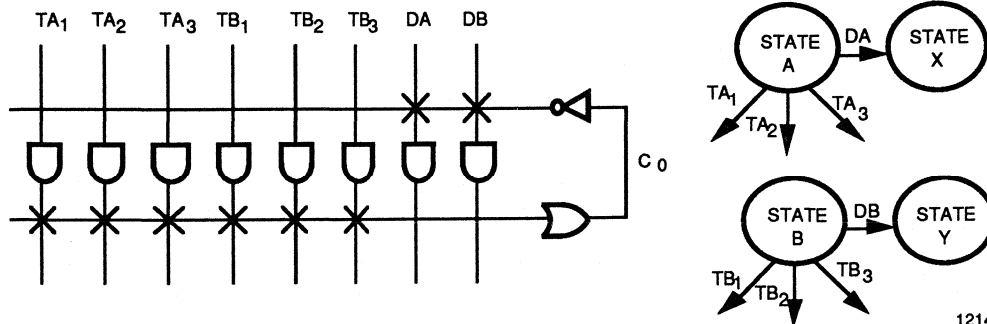

Figure 9. Complement Array - Implementing Default Transitions
For local default transitions, or “else” branches, the input to the complement array term is connected to all of the potential transition product terms (TA_1 – TA_3) from the given state (A) (Figure 9). When none of these terms is TRUE or HIGH, the C_0 or C_1 signal will be LOW and the inverted feedback will be HIGH. This feedback signal can be connected to a product term that implements the default transition (DA). Since the default product term can also be connected to the state bits that define the present state, the complement array term can be re-